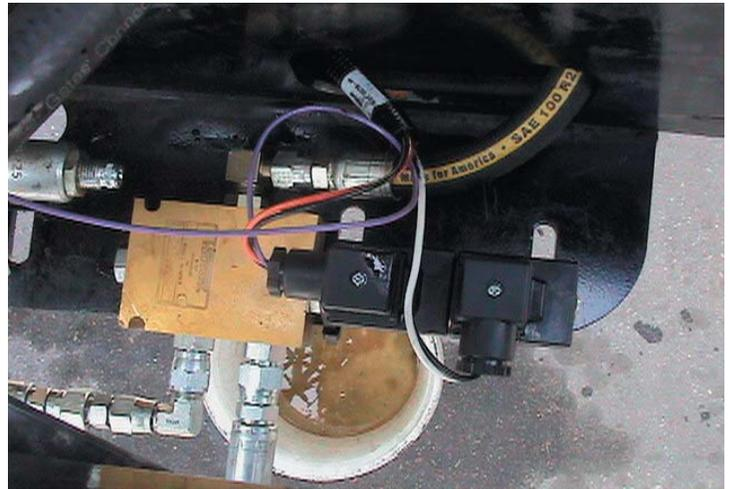

Figure 2.4 -Hydraulic Valve & fittings
Refer to *Figures 2.4, 2.5, and the Hydraulic Diagram on page 12* for this step.
1. Assemble the needle valve assembly as per *figure 2.4*. Refer to the Hydraulic Diagram on page 11 for the fitting assembly. This photo is to be used as a reference only. The fittings required will be the same as shown on the Hydraulic Diagram.